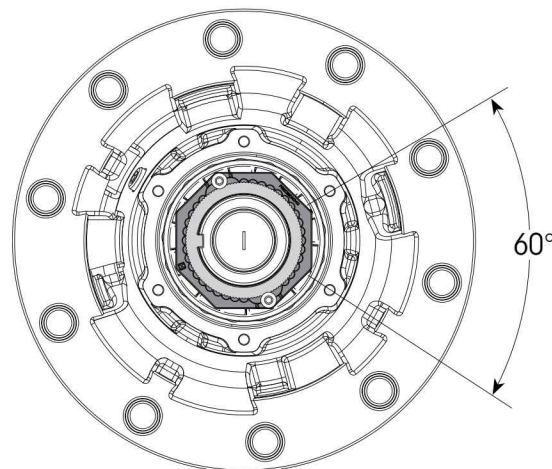

Figure 12: Back off nut 1/6 turn
8. **Back-off nut 1/6 turn** (Figure 12, one hubcap screw hole).